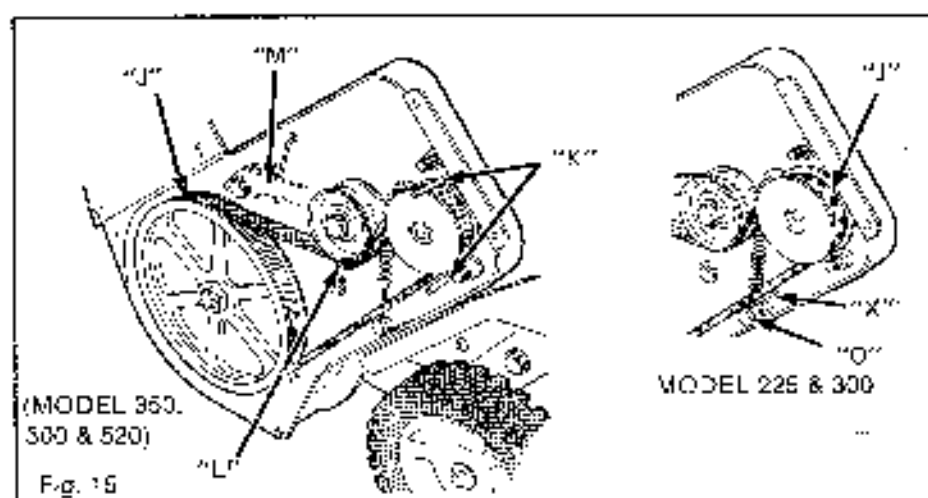

Fig. 15
DURING EACH SEASON: as needed, lubricate in the areas indicated in Figures 15 and 16 using a lightweight motor oil.
1. Idler Arm (M) (under drive cover). Figure 15 or 17.
2. Vane Control Mechanism (N) (under upper cover).
3. Impeller Bearings (O) (on both ends of impeller).
4. Wheels (P).